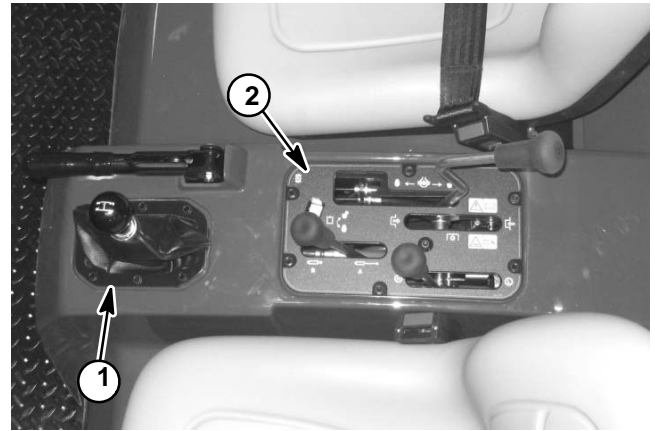
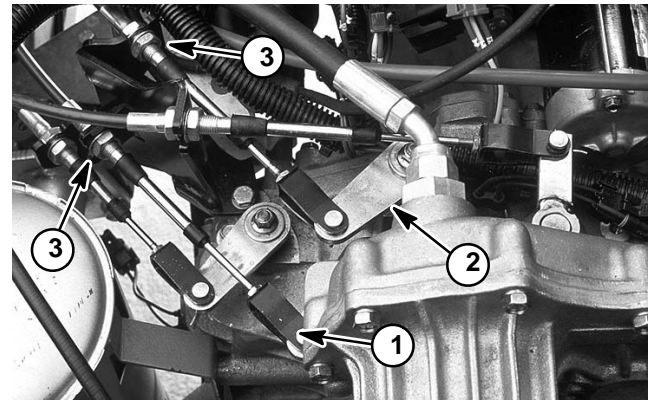

Figure 5
Figure 6
2. Remove knobs from control levers, then remove center console shift boot and control plate (Fig. 5).
3. Remove three (3) screws and cable clamp that secure shift cables to lever support.
6. Remove shift cable from transaxle shift lever (Fig. 6):
4. Secure shift cables to lever support with cable clamp and three (3) screws.
5. Spread jam nuts on bulkhead fitting of cable (Fig. 6). With cable properly routed to transaxle, install cable bulkhead fitting to shift cable mount bracket on transaxle and tighten jam nuts.